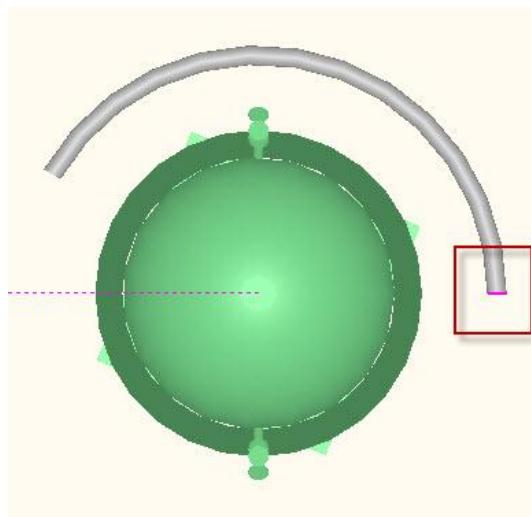

Figure 14.14: End Feature Selection
25. Select the End Feature of the 1st placement point of the pipe as shown in Figure 14.14.